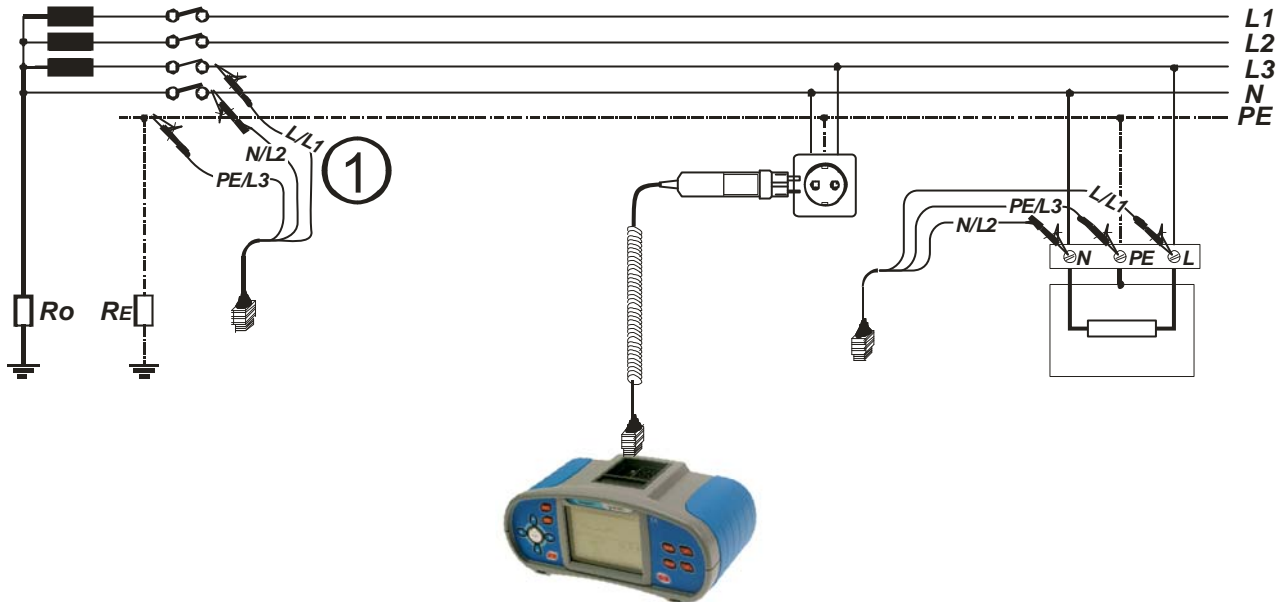

Figure G.6: Connection for reference (1) and socket measurements
- ❑ **Connect** test leads to the tested socket (see figure G.6).